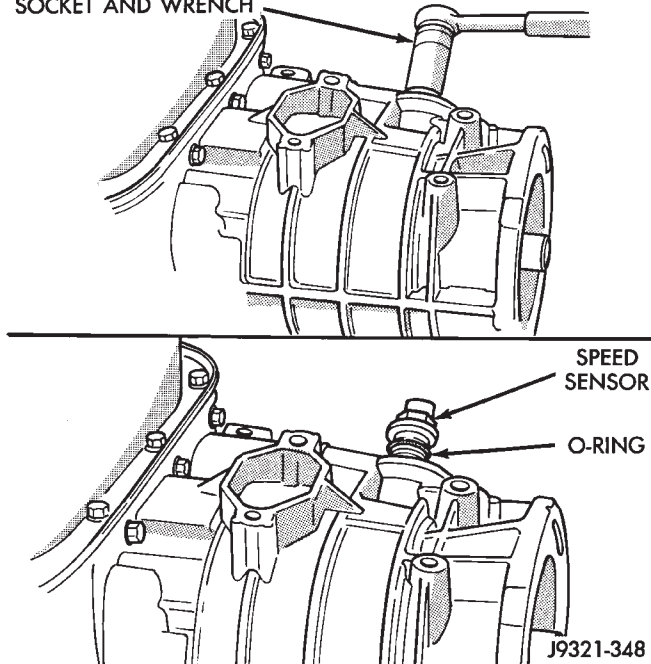

Fig. 122 Transmission Speed Sensor Removal/Installation
- (1) Remove transmission from vehicle.
- (2) Remove overdrive unit.
- (3) Clean transmission exterior with steam gun or with solvent. Wear eye protection during cleaning operations.
- (4) Remove shift and throttle levers from valve body manual lever shaft.
- (5) Remove transmission speed sensor and O-ring seal from overdrive unit (Fig. 122).